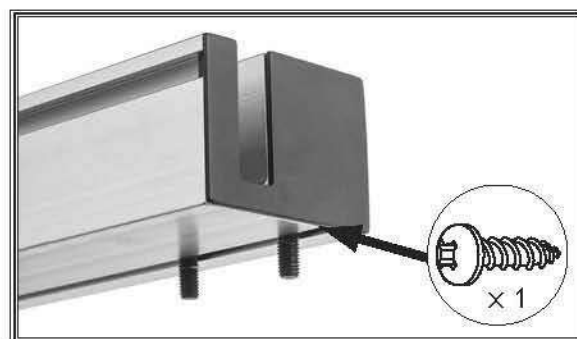

Figure 22. Left end cap re-installed on front fence rail.
11. Re-install end cap and tap screw on fence rail (see Figure 22).